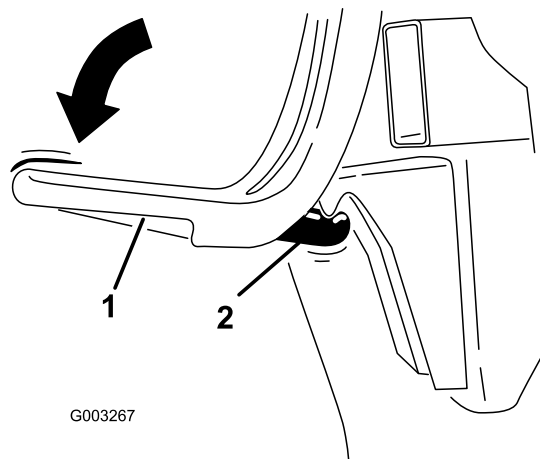

Figure 12
- Position the bagger latch under the latch hook (Figure 12).
- Push down on bagger latch until it locks into place (Figure 12).